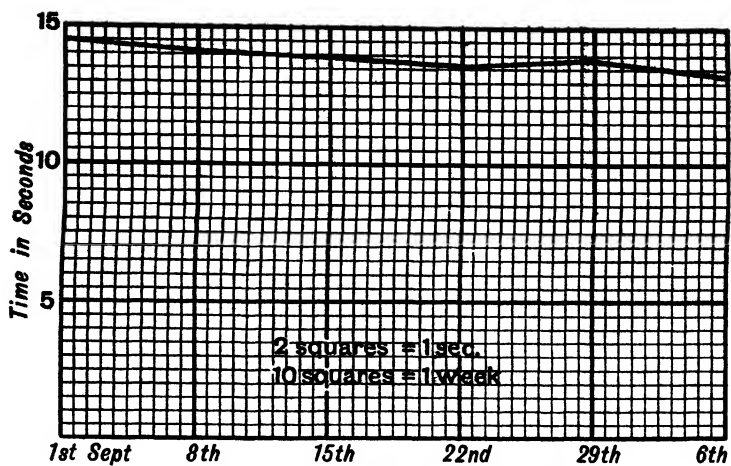

FIG. 50. RECORDING TIMES FOR RUNNING
*Data for graphs in Figs. 50 and 51.*